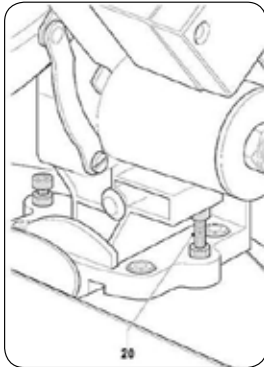

FIGURE 8.3
- Use a set square to check the angle between the saw blade and the table (12). If the angle does not measure 90° adjust as follows:
- Loosen the lock knob (6) and move the head so the saw blade reaches a 90° angle.
- Loosen the locknut on the adjusting screw and screw the adjusting screw in or out to achieve a 90° angle. Retighten the locknut. Figure 8.3.